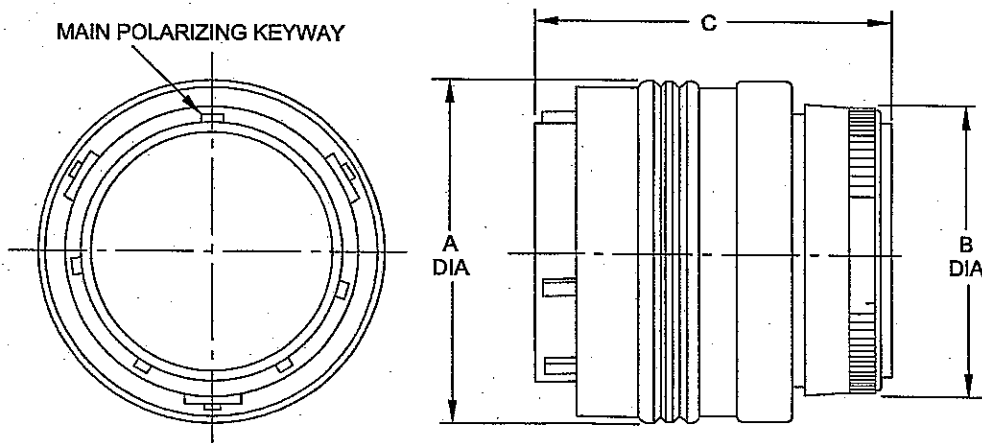

Fig 17 469 Push-pull plug, dimensions
13.2 Details of the 469 push-pull plug are given in Fig 17 and Table 10. Locking of the 469 plug on a receptacle is achieved by pushing the outer shell of the plug over the bayonet studs on the shell of the receptacle.